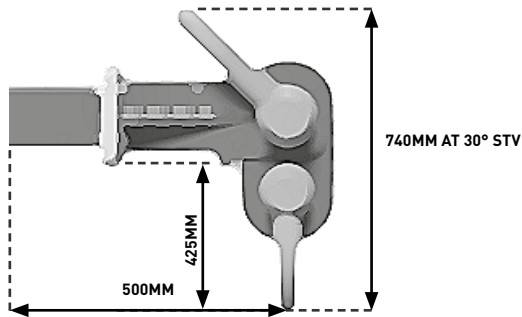

Figure 5 - Drop Link Clearance
- The rigger must ensure there is clearance between sling end and End Attachment (see Figure 5).
Textile slings, wire rope slings with soft eyes and chain slings with small end fittings. If thimble eyes are used with wire rope then sling angle must be less than 30 degrees. Ensure that attachment allows adequate clearance as shown in Figure 5, a longer sling will give greater clearance.